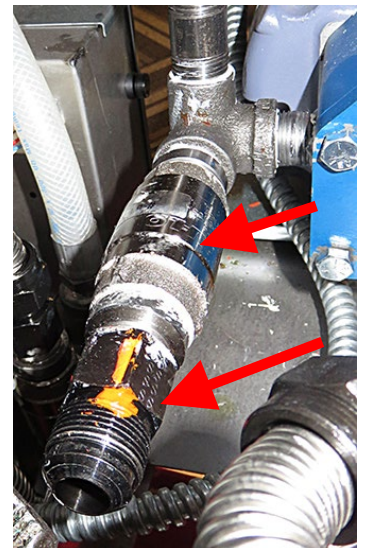

Figure 23
26. Attach the check valve fittings, check valve, and flexline adaptor, removed in steps 20 and 21, to the bottom opening of the elbow as shown (see Figure 23).